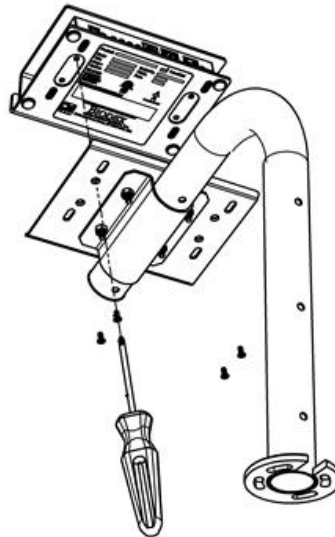

Figure 2.6. Attaching the Interface Module to the Tablet Shelf.
- Place the four 6-32 x .38" SST screws provided with the Tablet Shelf through the openings on the bottom of the Tablet Shelf up into the Interface Module (see Figure 2.6). Using a Phillips head screwdriver, tighten the screws until the Interface Module is fully supported.